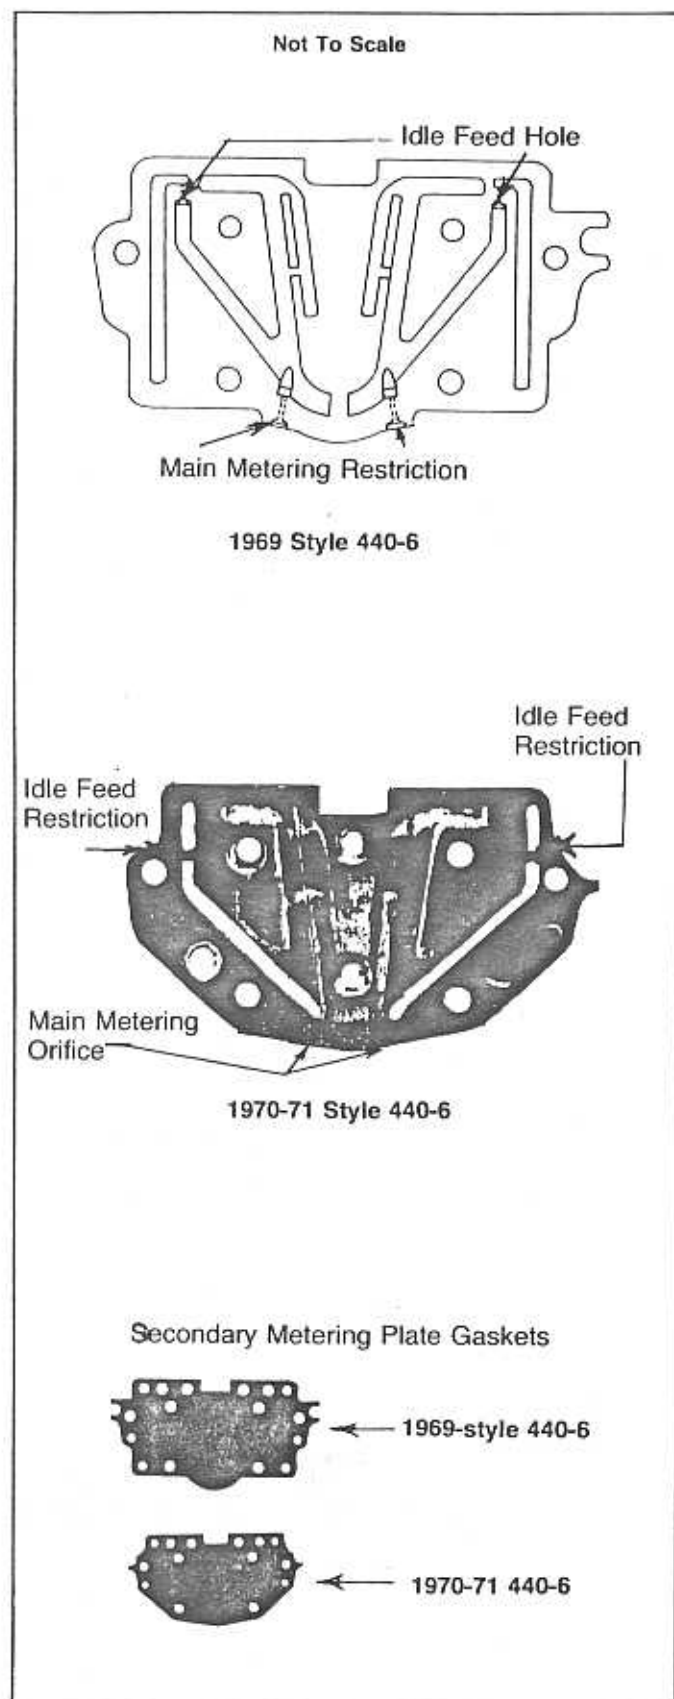

FIGURE 2-8
** Main Meter Orifice. (See Figure 2-8)